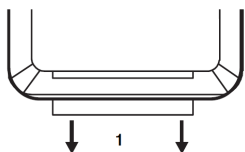

Figure 1
1. Before using the remote control, please remove the plastic insulation sheet of the remote control follow the arrow for use; (see Figure 1)